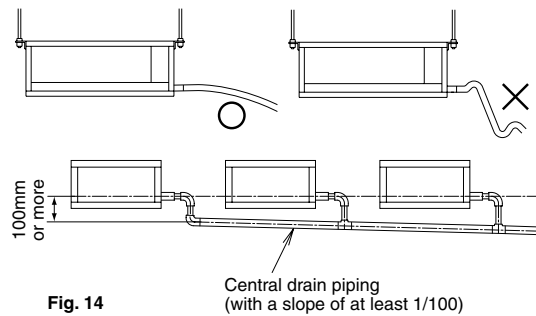

Fig. 14
- Keep the drain piping short and sloping downwards at a gradient of at least 1/100 to prevent air pockets from forming. (Refer to Fig. 14)
- If you are using central drain piping, follow the procedure outlined in the figure 14.
(2) After piping work is finished, check drainage flows smoothly, with manner described below.